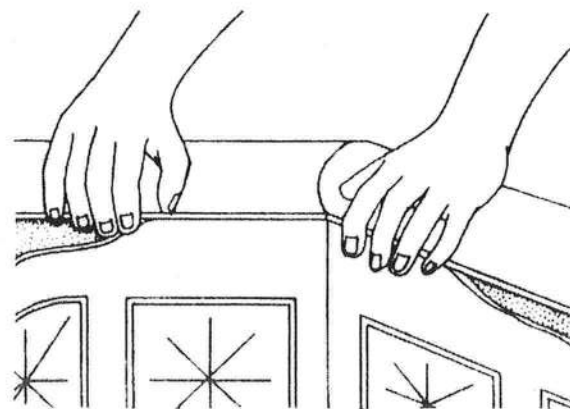

Figure 23: Liner Bead Installation
7. From the outside of the pool, snap the liner bead into the liner track in each shallow-end corner (see Figure 23). Continue snapping the bead into the track across the shallow end of the pool. Now, start down the long sides, toward the deep end. **Several feet past the break point, stop and square the liner over the break point, using the seam as a guide.** When the liner is square, continue snapping the bead into the track, being careful not to overstretch the liner. Push the liner bead into the liner track completely to insure proper locking. (Insert Figure 23 from page 15 of the existing manual.)